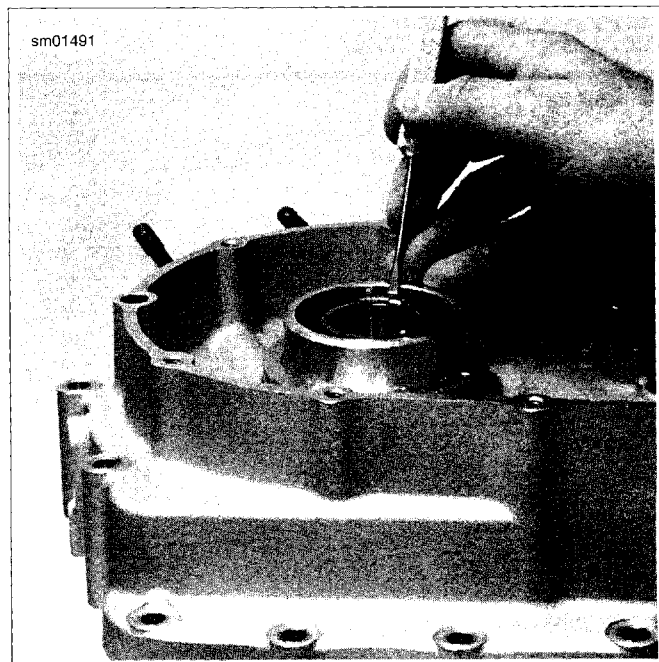

**Figure 3-152. Removing Pinion Shaft Bearing Retaining Ring**
2. See Figure 3-152. Pinion shaft bearing assembly (3) will remain on pinion shaft (2) when flywheel assembly (1) is removed from right crankcase. Using TRANSMISSION SHAFT RETAINING RING PLIERS (Part No. J-5586-A), remove retaining ring (4) and slip bearing off pinion shaft.